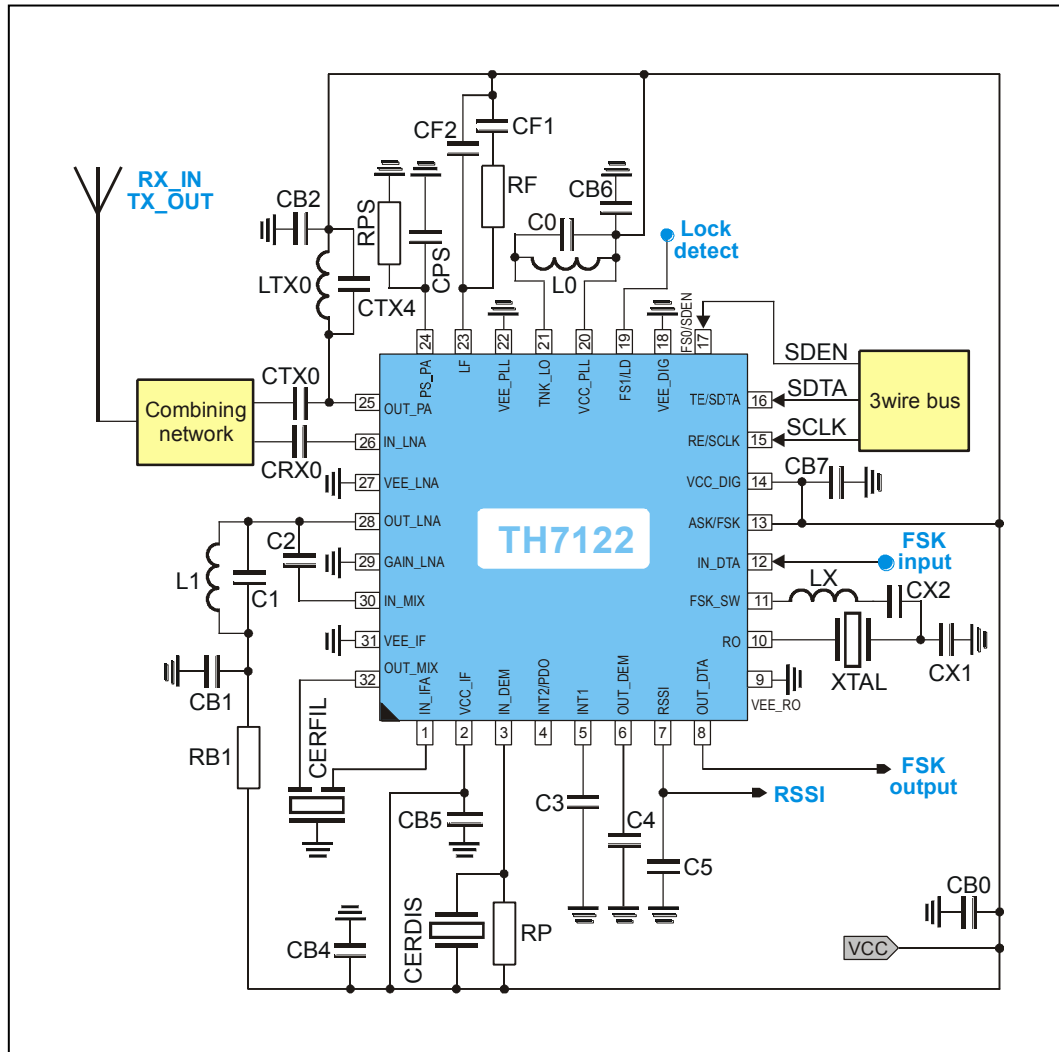
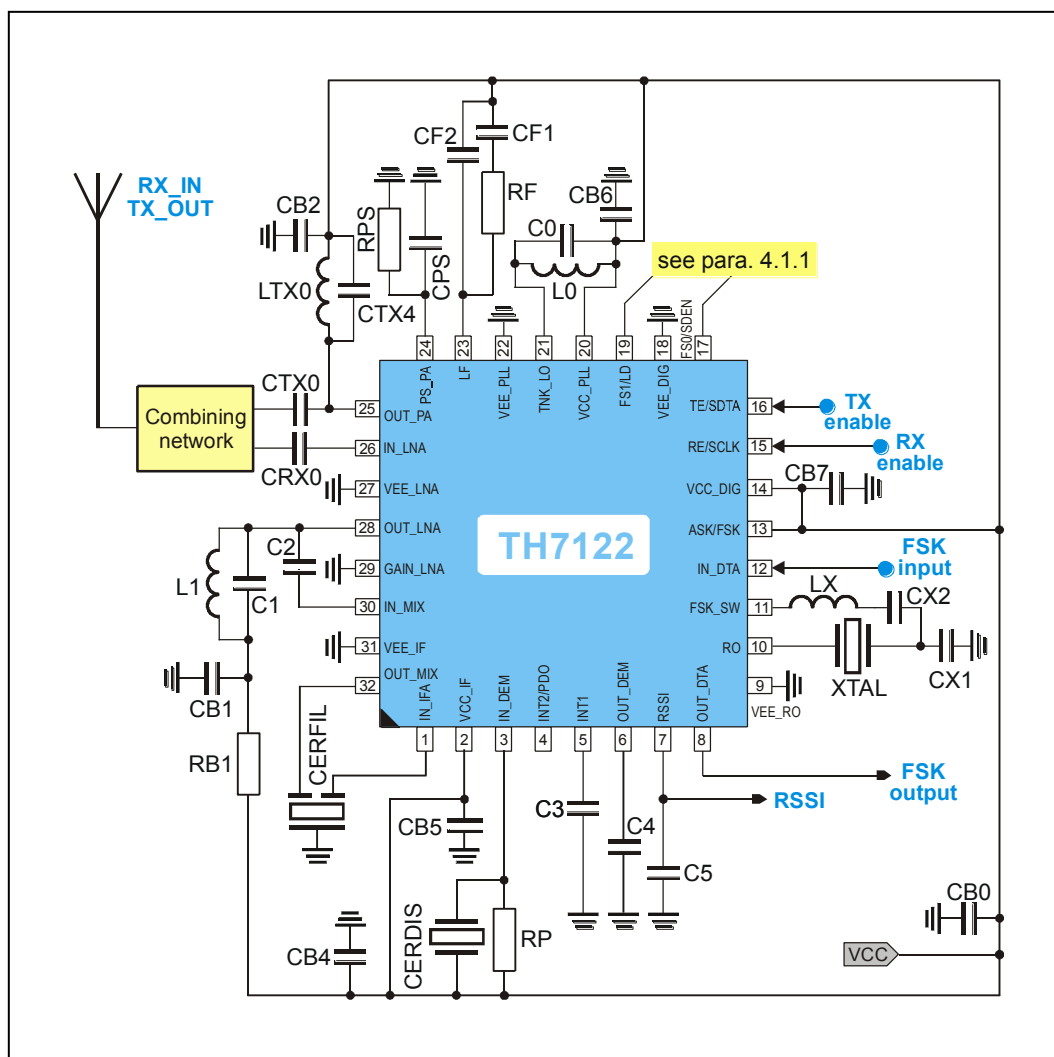
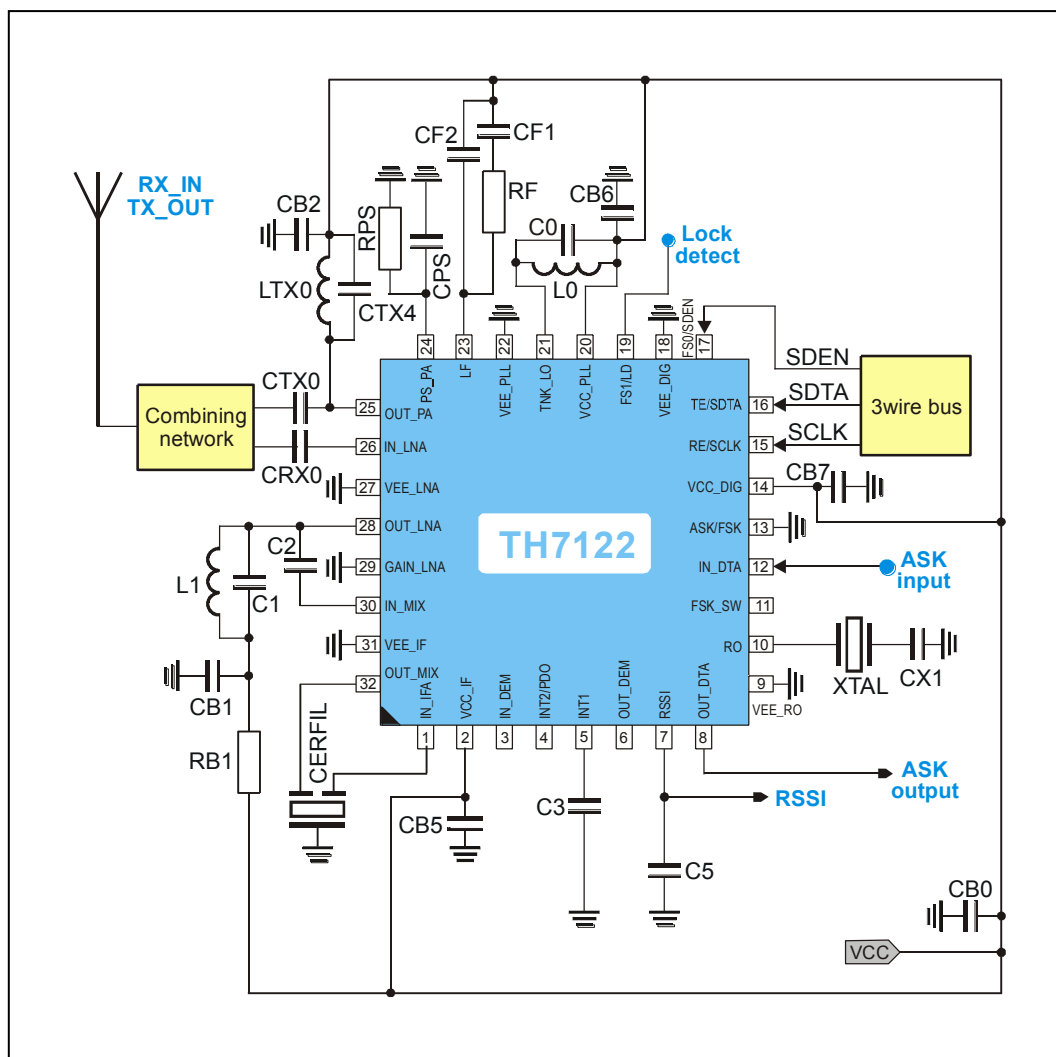

Fig. 14: Test circuit for FSK operation in Programmable User Mode (internal AFC option)
Fig. 15: Test circuit for FSK operation in Stand-alone User Mode
Fig. 16: Test circuit for ASK operation in Programmable User Mode (normal data slicer option)
all parameters based on test circuits for FSK (Fig. 14 to 15) and ASK (Fig. 16 to 17), respectively;
7.3 FSK Test Circuit Component List (Fig. 14 and Fig. 15)
7.5 ASK Test Circuit Component List (Fig. 16)